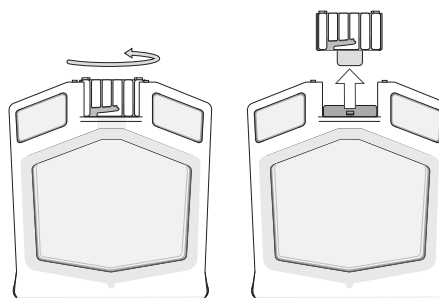

Figure 2 Open the cassette.
1. Open the cassette by gently twisting the cap counterclockwise (Figure 2).
2. Open the cassette by gently turning the cap counterclockwise (Figure 2).